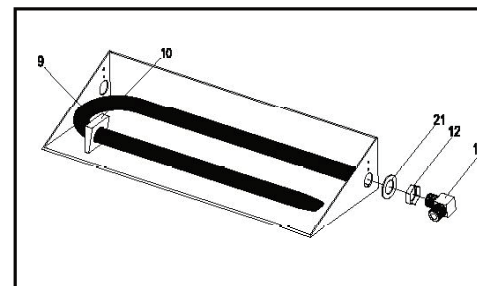

Figure 6. Burner bar connection
- D. Secure the intake end of the Dual burner bar (Part # 9) to the burner pan (Part # 8) through the knock-out hole selected (right or left hand) with the 3/8" brass orifice elbow (Part # 11), 3/8" locknut (Part # 12), and washer (Part #21) previously assembled in Step B (See **Figure 6**).